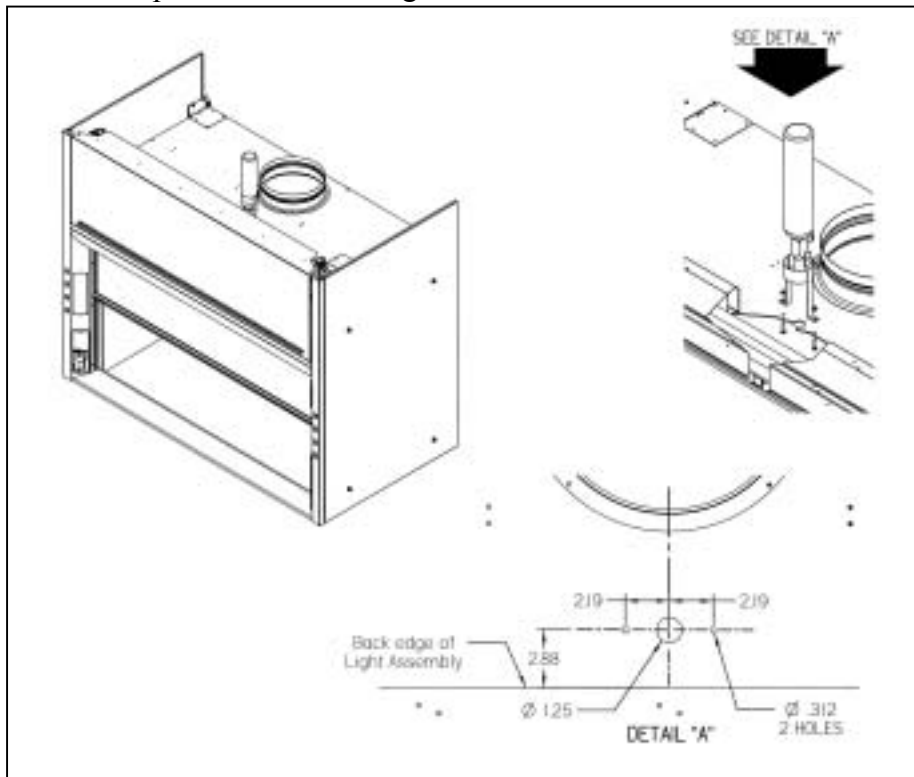

Figure 1
1. On hoods 4 Ft, 5 Ft and 6 Ft in width, locate the unit at the centerline of the hood per Fig. 1. Hoods 8 Ft and greater require additional units and should be mounted equal distance in the hood behind the light assembly shown in Fig. 1. **NOTE:** Protruding discharge nozzle should have an unobstructed discharge at the desired protection zone inside the fume hood.
2. Drill holes per detail "A" of Fig. 1.